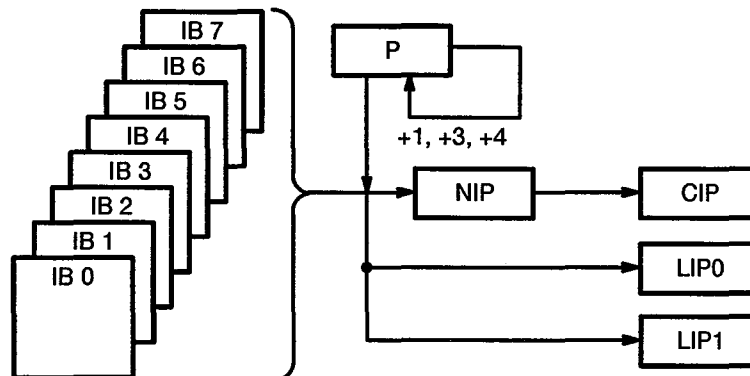

Figure 84. Instruction Issue Block Diagram
Refer to Figure 84 for an instruction issue block diagram. The program address (P) register points to the next parcel to be read out of the instruction buffer. If it is a 1-parcel instruction, the NIP moves to the current instruction parcel (CIP), the parcel from the instruction buffer moves to NIP, and P is incremented by 1. If it is a 3-parcel instruction, as NIP moves to CIP, the second parcel moves into LIP0, the third parcel moves into LIP1, and P is incremented by 3. If it is a 4-parcel instruction, as the first parcel moves from NIP to CIP, the second and third parcels move to LIP0 and LIP1. Then, the fourth parcel goes to NIP and then to CIP as the other three parcels are leaving. In the next clock period, the fourth parcel leaves CIP, and P is incremented by 4.